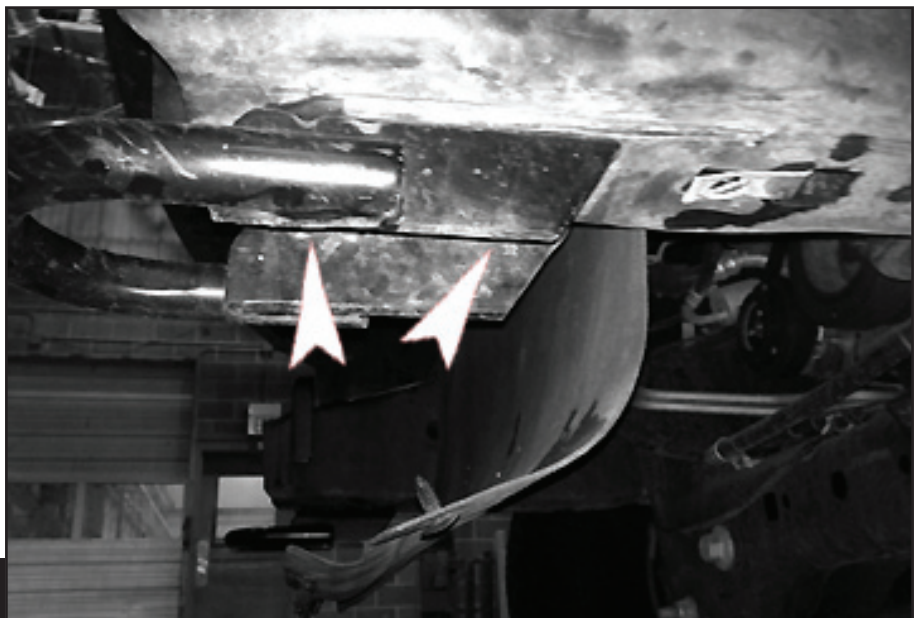

Fig 6
6. Remove (4) bolts holding on tow hooks. Keep all hardware and parts for reassembly (**Fig 6**).